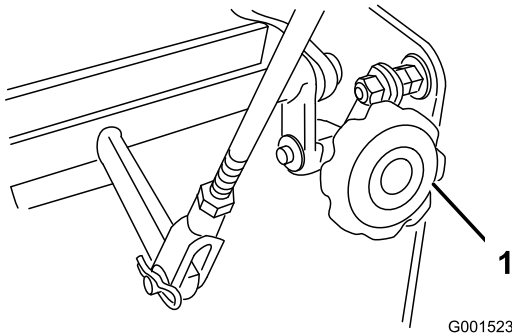

Figure 38
4. If the machine tracks to either side, turn the quick-track knob. Turn the knob right to steer right and turn the knob left to steer left (Figure 38).